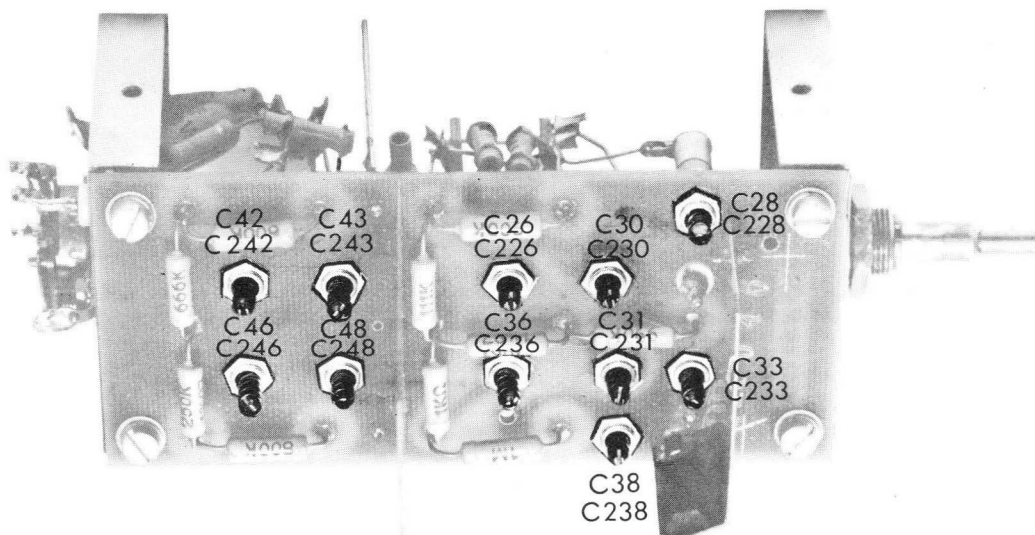

Fig. 11. Attenuator unit
- Set AC-0-DC of channel A (B) to position DC.
- Set x1-x10 of channel A (B) to position x1.
- Set V/div of channel A (B) to position 10 mV/div.
- Set potentiometer V/div of channel A (B) to position CAL.
- Apply a squarewave voltage of 40 mVp-p, frequency 500 kHz, rise time approx. 3 ns to socket YA (YB).
- Apply a squarewave voltage with a frequency of 2 kHz (rise time 200 ns) to YA (YB).
- At a trace height of 8 divisions, + or -2.5 %, adjust the relevant trimmers (see table and fig. 11) so that just no overshoot occurs.